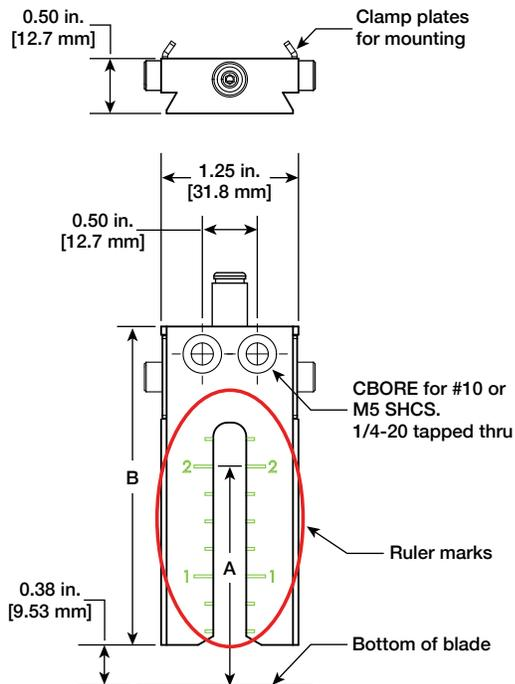

Figure 1: Band Saw Blade Nozzle dimensions
The Band Saw Blade (BSB) and Band Saw Guide (BSG) Nozzles can be mounted in a variety of ways to accommodate many different band saw designs. It is critical that the nozzles be mounted so the saw blade is centered in the nozzle, and properly positioned so the lubricant is applied to the correct areas of the blade (**Fig. 1 & 2**). To simplify the installation process, mounting templates are provided (**pages 6 & 7**) and can be used to help find the proper mounting locations. Additionally, there are ruler marks on the BSB Nozzle body (**Fig. 1**) that align with the top of the blade to confirm the nozzle is positioned properly.
- 2) Place the Band Saw Blade Nozzle over the marks and verify that the bottom of the saw blade is 0.38" [9.5 mm] below the nozzle body (**Fig. 1, page 1**). Also confirm that the nozzle is properly centered over the blade.
- 1) Using the supplied dimensions and template (**Template B, page 7**), determine the best position for the rail mount. Ensure the rail mount is horizontally centered on the blade and vertically positioned so when the nozzle is mounted to the rail, the bottom of the saw blade is 0.38" [9.5 mm] below the bottom of the Band Saw Blade Nozzle body (**Fig. 1, page 1**). Confirm the bottom of the rail mount is not in contact with the top of the band saw blade. If the rail mount is too long, it can be shortened as long as two of the three mounting holes are used.